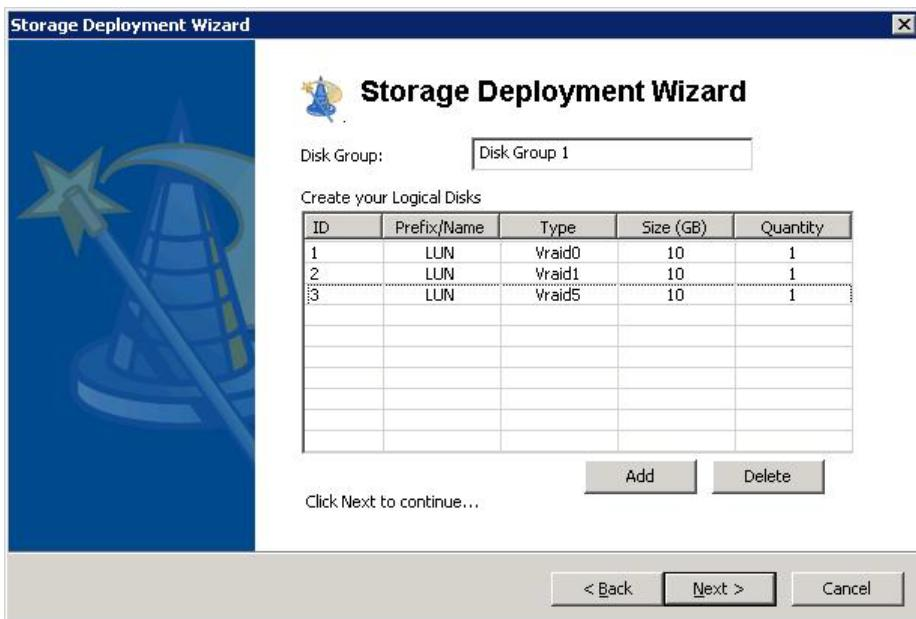
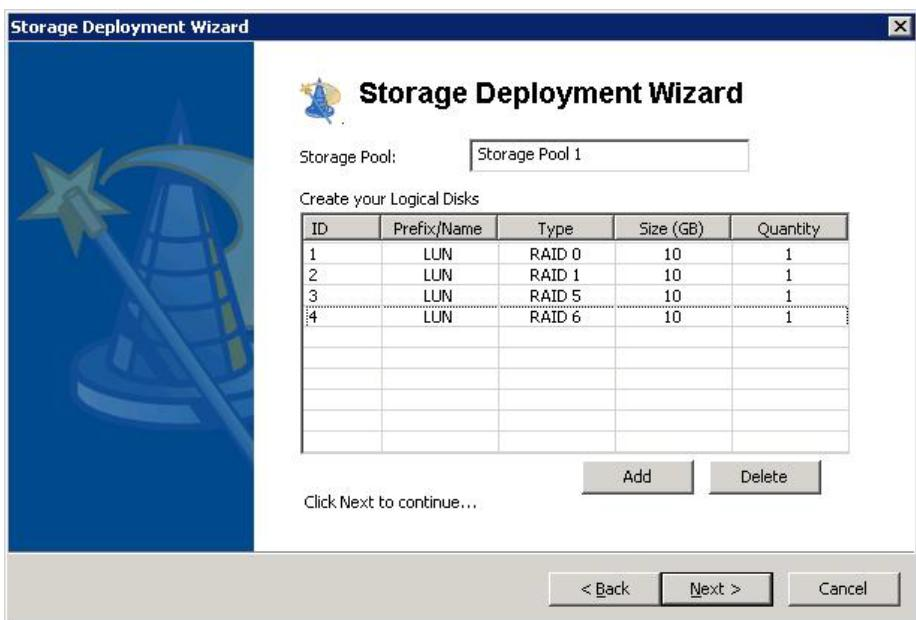

Figure 110 Storage Deployment wizard: create logical disks for EVA (custom deployment)
Figure 111 Storage Deployment wizard: create logical disks for MSA (custom deployment)
If you are configuring an EVA subsystem, the wizard prompts you to create logical disks for each disk group (Figure 110). If you are configuring an MSA subsystem, the wizard prompts you to create logical disks for each storage pool (Figure 111).
- c. Under Size (GB), enter the disk capacity in gigabytes.
6. If you have multiple disk groups (for EVA storage), the wizard window shown in Figure 110 appears for the next disk group. If you have multiple storage pools (for MSA storage), the wizard window shown in Figure 111 appears for the next storage pool. Complete the wizard window as you did in step 5 for each disk group or storage pool that you created in step 4. Then click **Next** to continue.